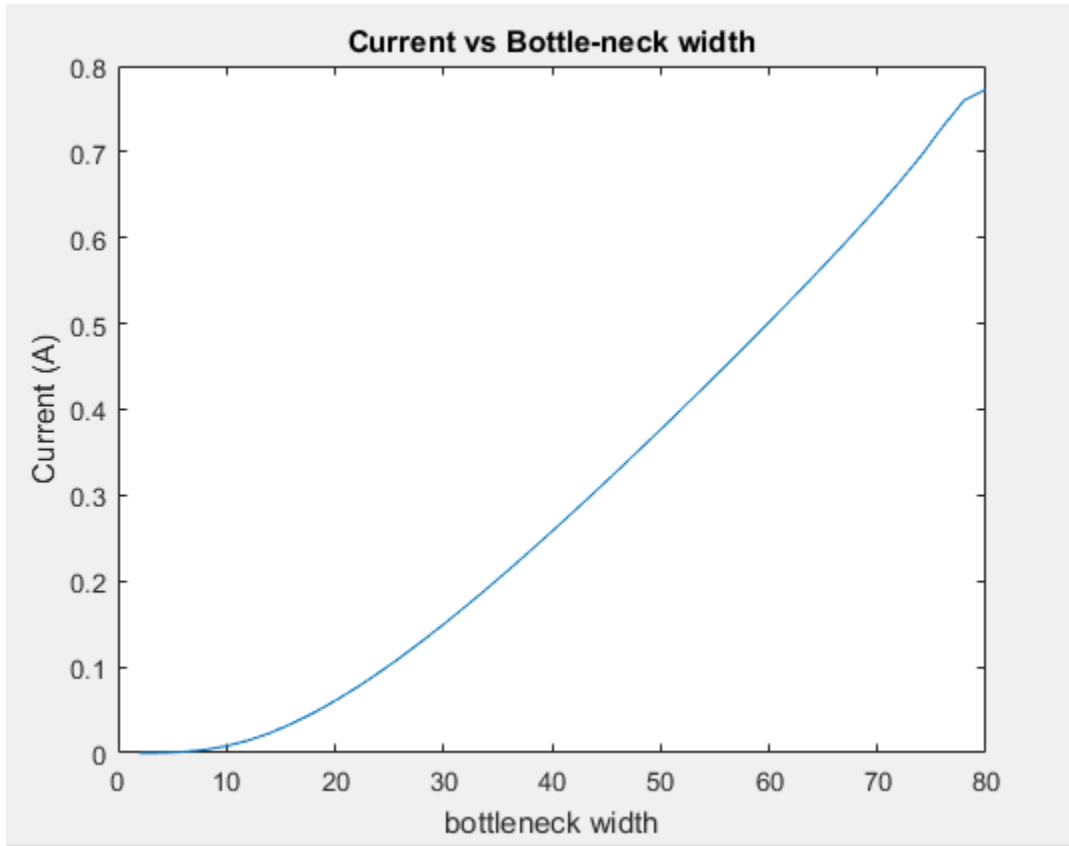

Figure 10: Current vs Bottle-neck width
- c. The current value increased with increased bottle-neck width. The bottleneck width is the space between the two boxes, so with increasing width of the box, the bottleneck width reduces. Figure 10 below shows the graph of current vs bottleneck width (This was done with $(W, L) = (120, 80)$):